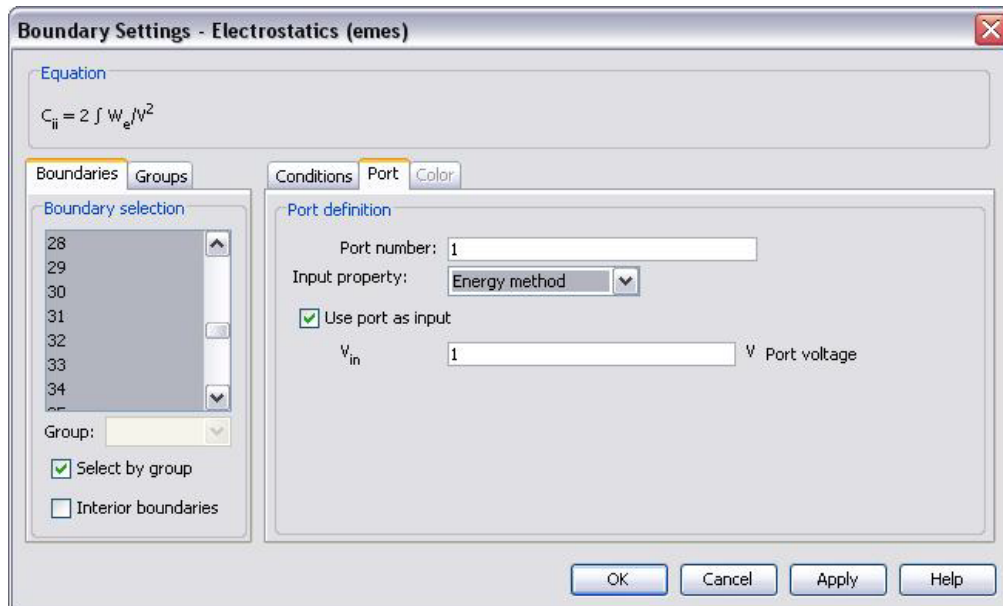

Figure 12
3. After applying the above boundary conditions, click on the **Port** tab and make sure the dialog box looks exactly like shown in figure 12.